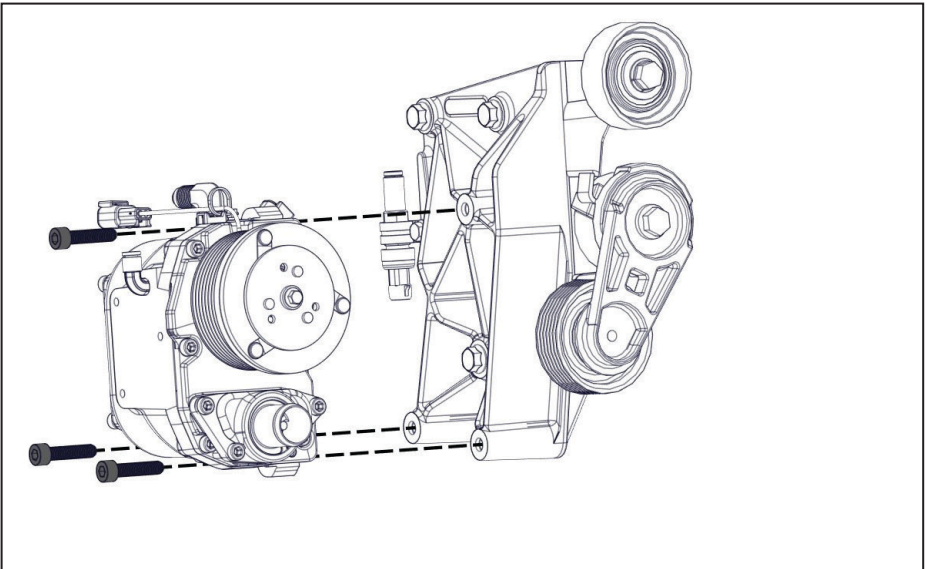

Figure 14 — Mount compressor
- Using (×3) M8 × 1.25 × 35 mm bolts, mount the compressor assembly, and pressure switch assembly (in the orientation shown) onto the main bracket (Figure 14).